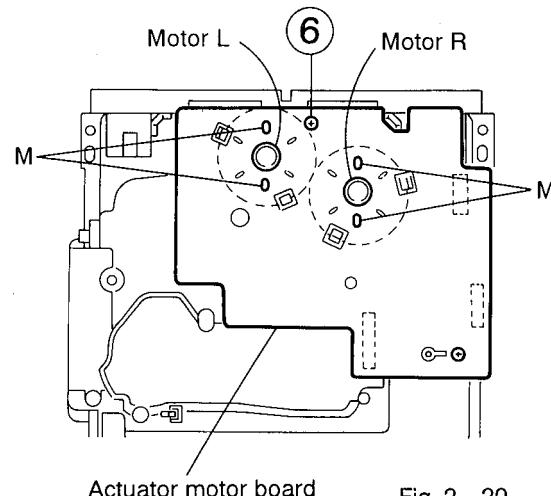

Fig. 2-20
(See Figs. 2-20 and 2-21)
- Absorb the four soldered positions (M) of the right and left motors with a soldering absorber (See Fig. 2-20).